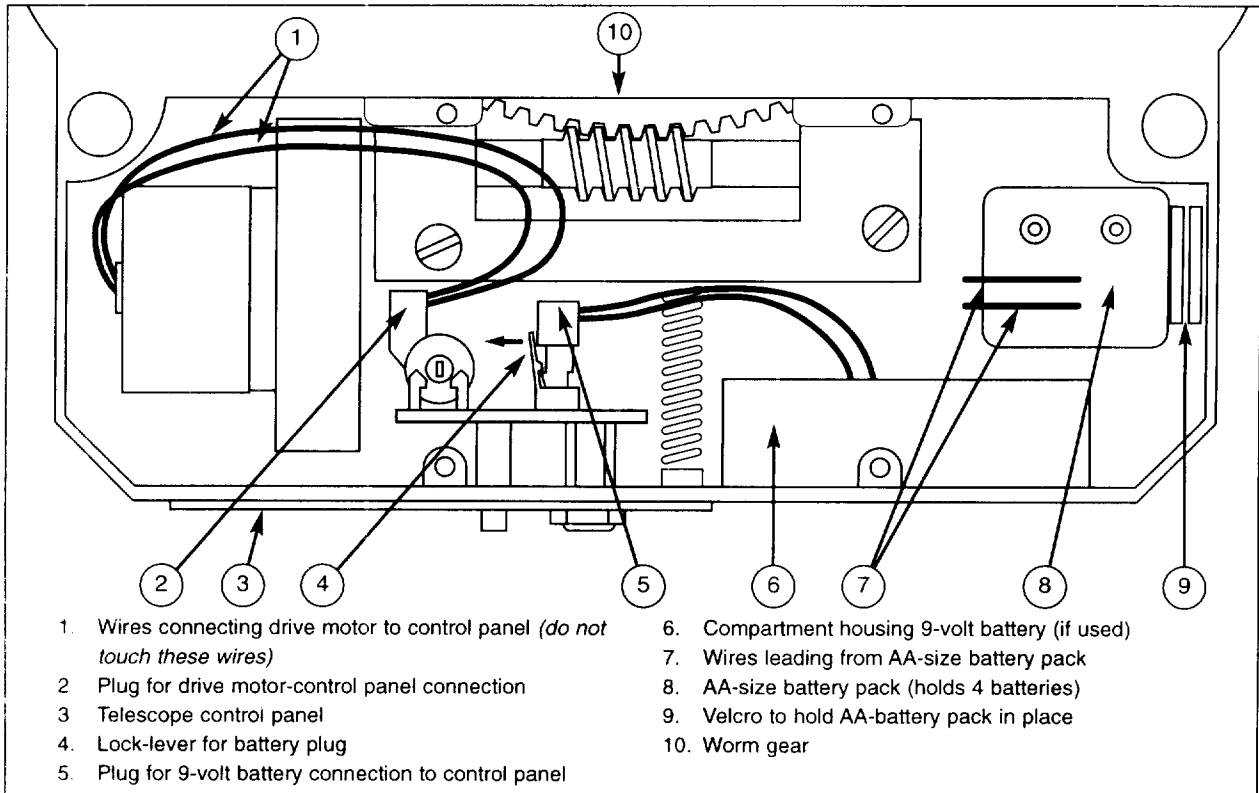
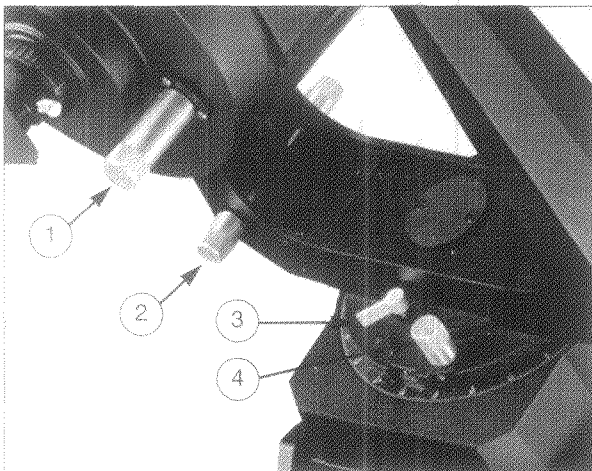

Fig. 8: The LX10 Motor Drive Compartment, as seen from the underside of the drive base with metal cover removed.
Fig. 9: Telescope controls. (1) Focus knob; (2) Dec slow-motion control; (3) R.A. lock; (4) R.A. slow-motion control.
To power the telescope from four AA-size batteries: Use one of the supplied hex wrenches to remove the metal cover panel located *underneath* the control panel on the *bottom* surface of the drive base; four hex-head screws attach this metal cover panel to the drive base. The internal compartment containing the drive motor and the worm gear assembly will now be visible (10, Fig. 8).
The LX10 telescope is shipped with the plastic AA-battery pack (8, Fig. 8) placed in one corner of the motor drive compartment and held in place with a Velcro strip; 2 thin wires and a small plug are wound into one side of this battery pack. Note that the 9-volt battery wires in (a), above, are factory pre-connected to the telescope's control panel by means of a small plastic plug (5, Fig. 8).
- a. Unplug the small plastic plug (5, Fig. 8) that connects the 9-volt battery compartment to the control panel. Pulling the detent lever (4, Fig. 8) *slightly* to the left (see arrow in Fig. 8) facilitates removal of the plug.
- b. Remove the AA-size battery pack (8, Fig. 8) from its position in one corner of the motor drive compartment.
- c. Insert four AA-size batteries into the battery pack, orienting the batteries as indicated on the battery pack. Replace the battery pack neatly into one corner of the motor drive compartment, holding it in position with the Velcro strip. The wires leading from the 9-volt battery compartment can be secured in the corner of the drive compartment between the battery compartment (6, Fig. 8) and the AA-size battery pack (8, Fig. 8).
CAUTION: Never turn the Right Ascension (R.A.) slow-motion control knob (4, Fig. 8), or attempt to move the optical tube manually when the R.A. lock (3, Fig. 9) is in the LOCKED position; such movement may damage the internal gears.
The Declination (Dec) slow-motion control knob (2, Fig. 9) has a fixed travel length. At some point after turning the
Select an object that is approximately 100 feet distant (e.g., the top of a telephone pole) and sight along the optical tube to "aim" the telescope at the object. Look through the eyepiece of the main telescope and turn the focus knob (1, Fig. 9) clockwise or counterclockwise until the object is in focus.
Once your selected object is in focus, with the R.A. lock UNLOCKED, and the Dec lock LOCKED, use the R.A. slow-motion control knob (2, Fig. 9) to center the object in the field of view.
Focus Knob (1, Fig. 9): Turning this knob causes a finely-controlled internal motion of the telescope's primary mirror to achieve precise focus of the telescopic image. The LX10 can be focused on objects from a distance of about 25 feet to infinity.
Dec Slow-Motion Control (2, Fig. 9): With the Dec lock in the *fully locked* position (with the lever pushed forward towards the front end of the optical tube), the Dec slow-motion control knob permits manual slow-motions of the telescope in Declination.
R.A. Lock (3, Fig. 9): Locking and unlocking the R.A. lock is accomplished by moving the R.A. lock lever all the way to the left for fully locked, to the center for partially locked, and all the way to the right for fully unlocked. Remember: never attempt to move the optical tube manually when the R.A. lock is fully locked.
R.A. Slow-Motion Control (4, Fig. 9): With the R.A. lock either fully unlocked or partially locked, the R.A. slow-motion control knob permits manual slow-motions of the telescope in a horizontal direction.